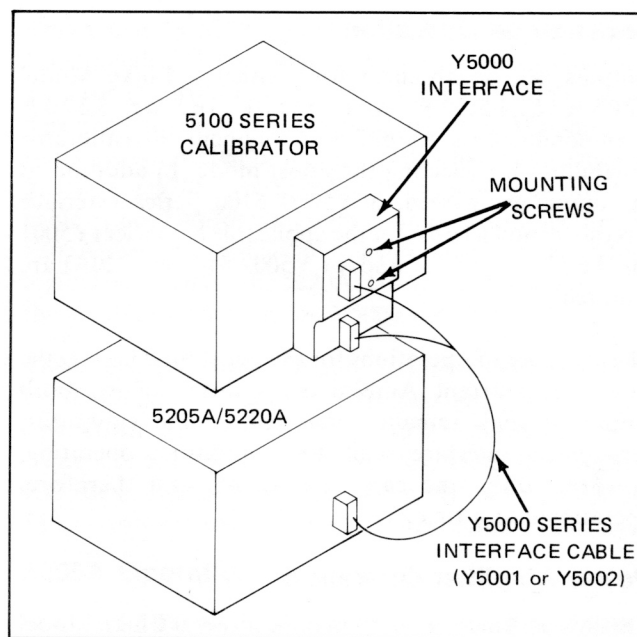

Figure 1. Installation Details
The Y5000 Interface plugs onto the rear panel of the 5100 Series calibrator as shown in Figure 1. Use the following procedure to install the interface.
2. Position and connect the Y5000 at the rear of the 5100 Series as shown in Figure 1.